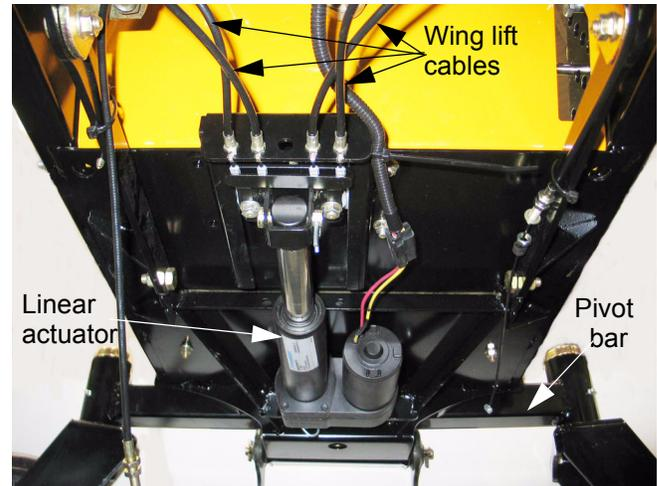

Figure 10.1
10.1. How it works: See Figure 10.1.